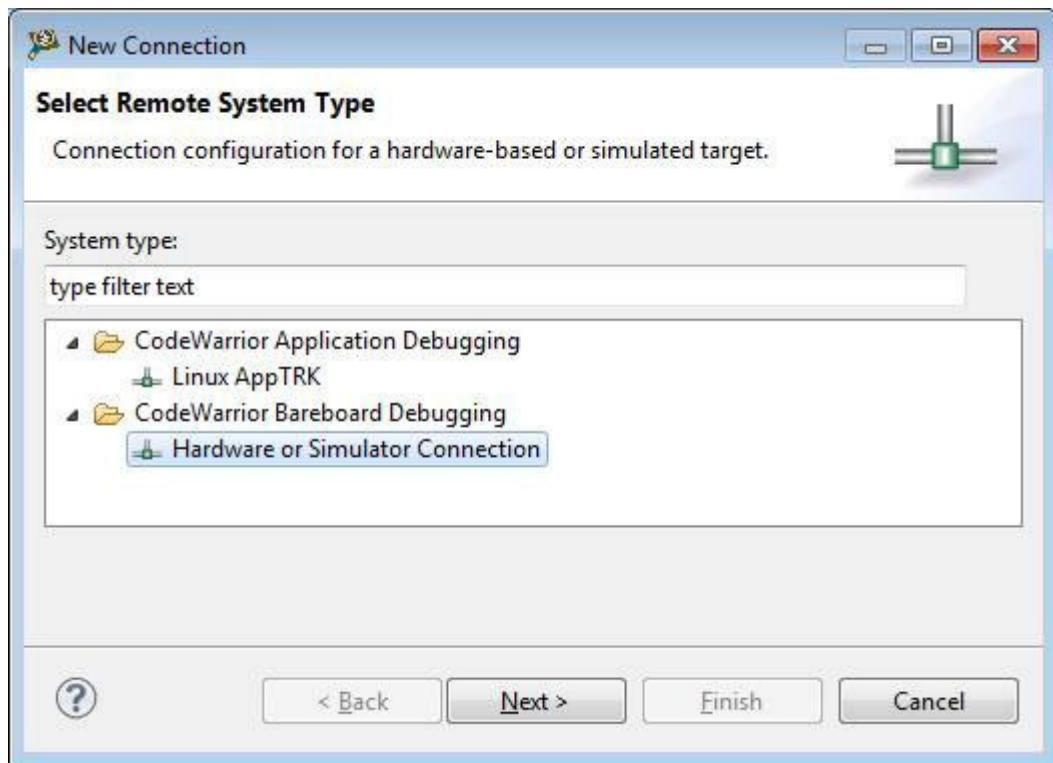

Figure A-3. Setting CodeWarrior Remote System Type
4. Select Hardware or Simulator Connection, and Click **Next**. See Figure A-3.